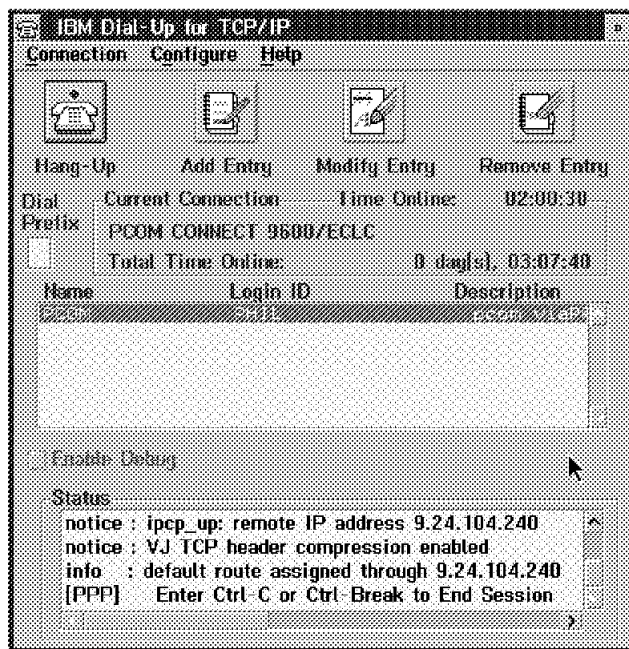

Figure 356. TCP/IP Dial-UP - Connected on the Remote Workstation
- Now start the PPP link on the remote station. To do so click on the **DIAL** button in the TCP/IP Dial-Up window (see Figure 356). The remote workstation starts the link as defined in 9.3.4, "Configuration of PPP on the Remote OS/2 Workstation" on page 321.
The connection should be successful, as shown in Figure 356 on page 326; if you encounter problems, see 9.3.7, “Resolving Problems Running PCOMM Sessions through PPP” on page 331.